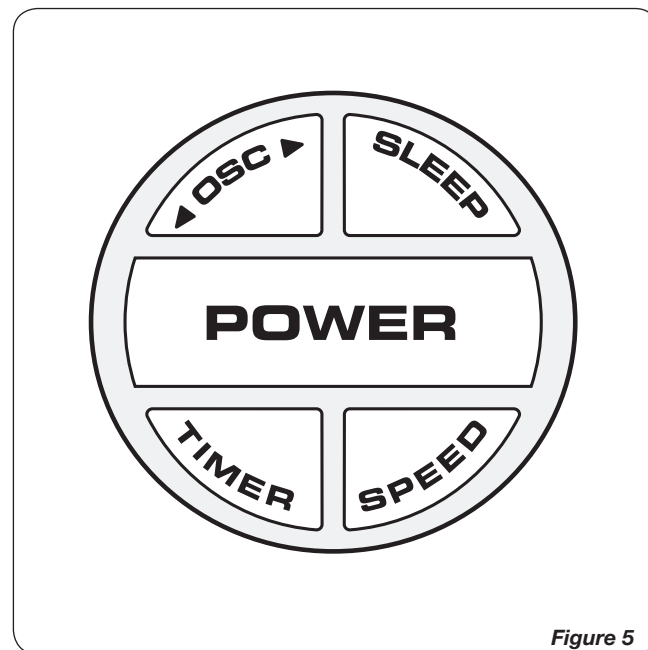
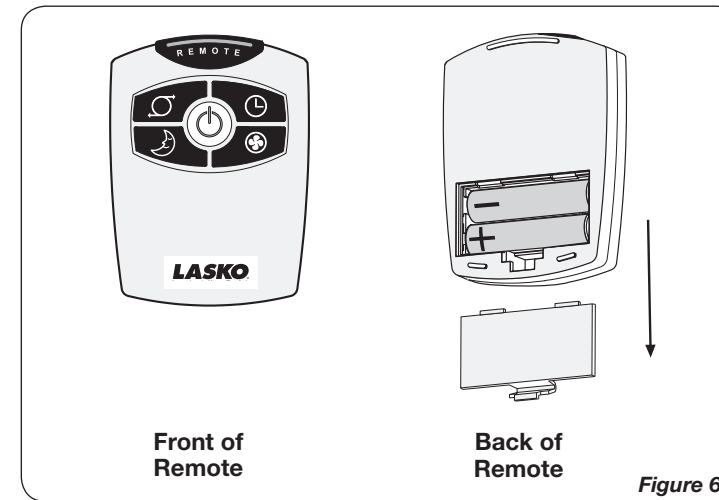

Figure 5
Figure 6
This Fan may be operated by the Manual Controls located on top of the unit (as shown in *Figure 5*) or by the Remote Control (shown in *Figure 6*).
REMOTE CONTROL (Figure 6)
1. Install batteries (not supplied) as shown in *Figure 6*. The battery is size "AAA".